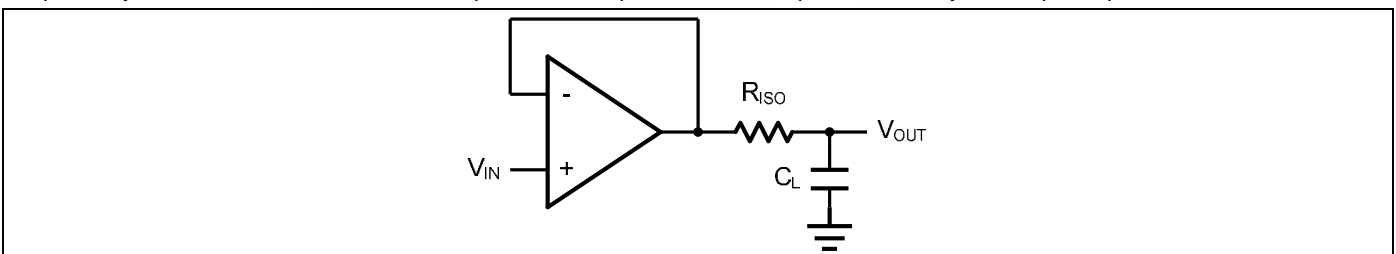
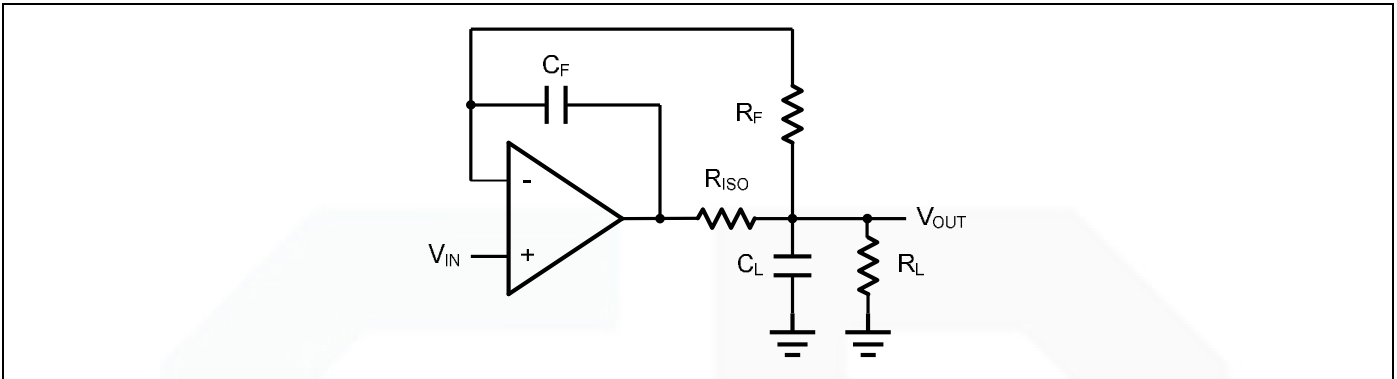

Figure 2. Indirectly Driving a Capacitive Load Using Isolation Resistor
Figure 3. Indirectly Driving a Capacitive Load with DC Accuracy
The GS321/358/324 family is optimized for bandwidth and speed, not for driving capacitive loads. Output capacitance will create a pole in the amplifier's feedback path, leading to excessive peaking and potential oscillation. If dealing with load capacitance is a requirement of the application, the two strategies to consider are (1) using a small resistor in series with the amplifier's output and the load capacitance and (2) reducing the bandwidth of the amplifier's feedback loop by increasing the overall noise gain. Figure 2. shows a unity gain follower using the series resistor strategy. The resistor isolates the output from the capacitance and, more importantly, creates a zero in the feedback path that compensates for the pole created by the output capacitance.
The circuit in Figure 3 is an improvement to the one in Figure 2.  $R_F$  provides the DC accuracy by feed-forward the  $V_{IN}$  to  $R_L$ .  $C_F$  and  $R_{ISO}$  serve to counteract the loss of phase margin by feeding the high frequency component of the output signal back to the amplifier's inverting input, thereby preserving the phase margin in the overall feedback loop. Capacitive drive can be increased by increasing the value of  $C_F$ . This in turn will slow down the pulse response.